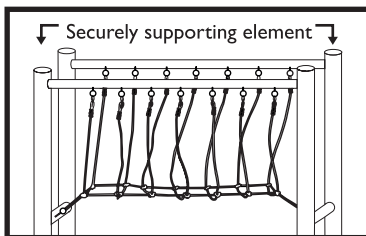

Fig. 1
8. Installation method: Installation of the product on the horizontal bar happens by linking the metal ring with the connective strap and spring hook. See fig.1.